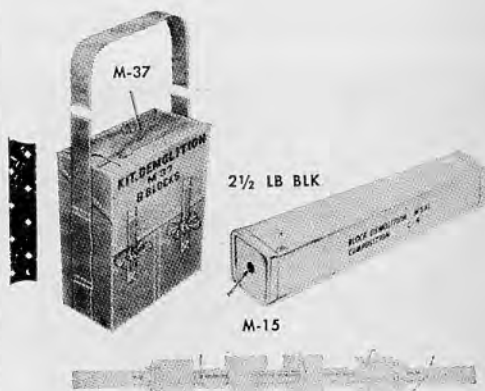

Fig. 29.2
B. C-4. Composition C-4 is a white, putty-like, odorless plastic explosive. It is more powerful than TNT. It has many desirable characteristics as a military explosive. Some of them are: Remains plastic over a wide range of temperature; can be molded to fit irregular-shaped objects; may be used under water. C-4 will normally be encountered by the Marine in the field in the form of the M-37 Demolition Kit. (See Fig. 29.2.) The kit consists of a canvas bag with a web shoulder strap. Within this bag there are two smaller bags, each containing four 2½-pound blocks of C-4, for a total of eight blocks to the kit. Two priming assemblies, M-15, come with each kit. These consist of a five-foot length of detonating cord with a booster crimped to each end. These primers are packed in a pocket on the inner flap of the kit. C-4 is easily detonated by